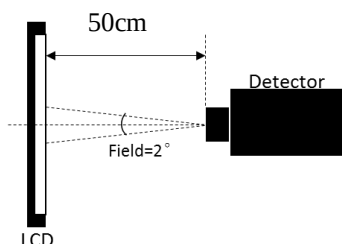

Figure 11.Measurement equipment
(2)Center Luminance of white is defined as luminance values of 5 point average across the LCD surface. Luminance shall be measured with all pixels in the view field set first to white. This measurement shall be taken at the locations shown in Figure 11 for a total of the measurements per display.
Center Luminance of white is defined as luminance values of 5 point average across the LCD surface. Luminance shall be measured with all pixels in the view field set first to white. This measurement shall be taken at the locations shown in Figure 11 for a total of the measurements per display.